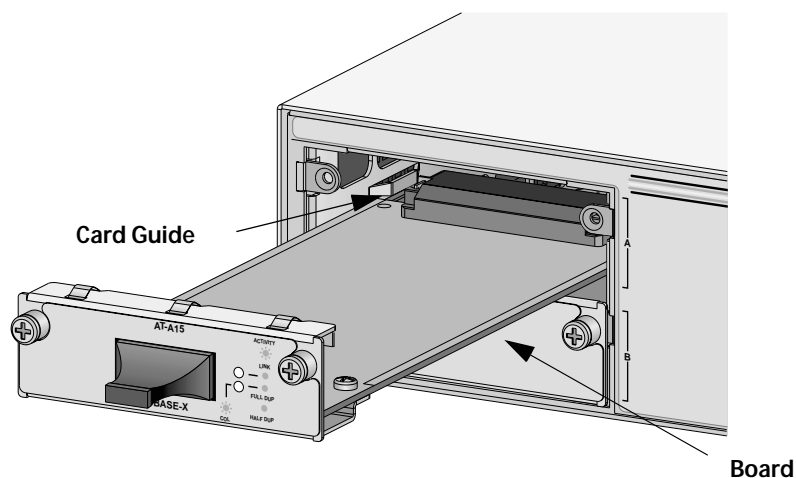

Figure 9 Installing an Expansion Module
4. Slide the expansion module into the empty slot making sure the board is aligned properly with the card guides. Refer to Figure 9.